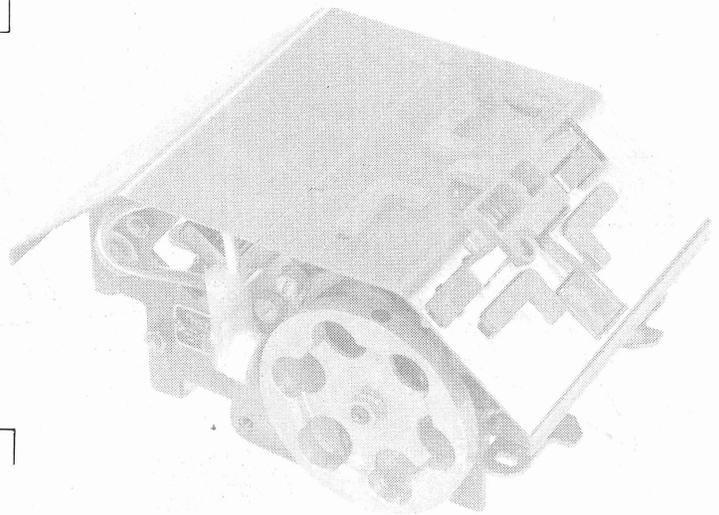

Figure 1 - CX Tape Reader (Typical)
1.01 This section provides lubrication information for CX tape readers (Figure 1). It is reissued to include new information for reader CX808 and the latest engineering changes. Marginal arrows indicate changes and additions.
1.03 References made to left or right, front or rear, and top or bottom apply to the reader as viewed with the flywheel facing the viewer (Figure 1).